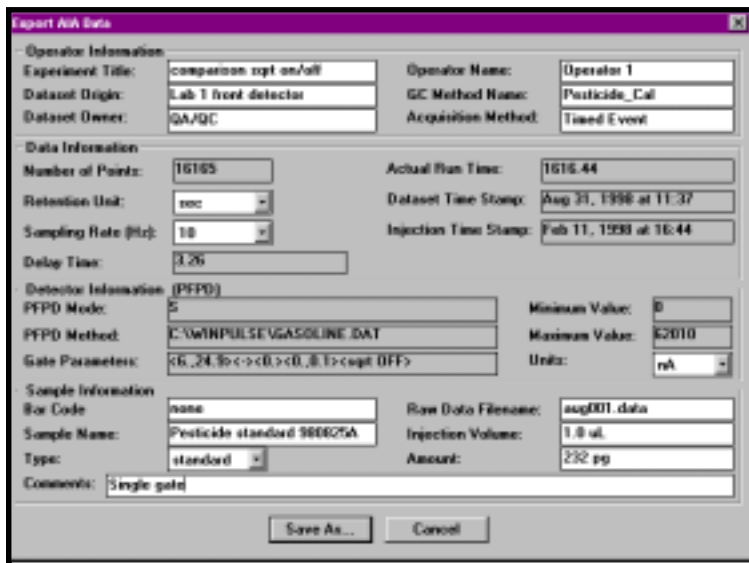

Figure 4.6. Export AIA Data Screen
4. Click on **Export AIA**. This will access the Export AIA Data screen (Figure 4.6).